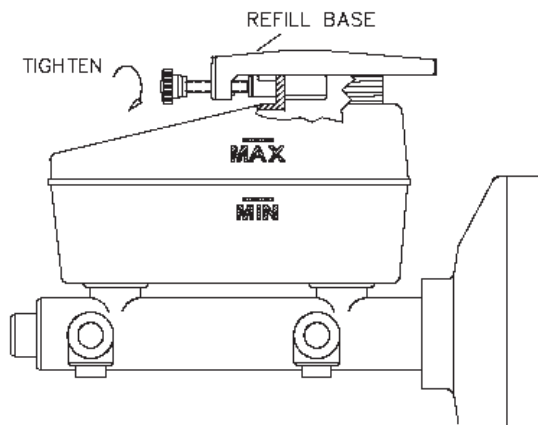

Figure 2
4. Clamp the base to the neck of the master cylinder by tightening the Sliding Block Knob (Fig 2).